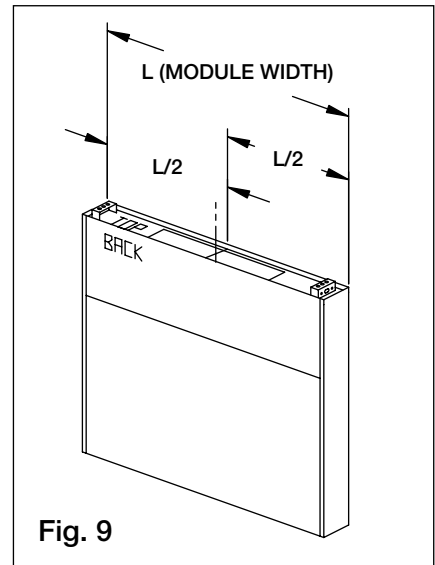

Fig. 9
2. If the Back Supply Plenum is less than 9 ft. 10 in. (299.72 cm) long, cut opening at the suggested location, centering the opening over the center of the Back Supply Plenum. (Fig. 9)